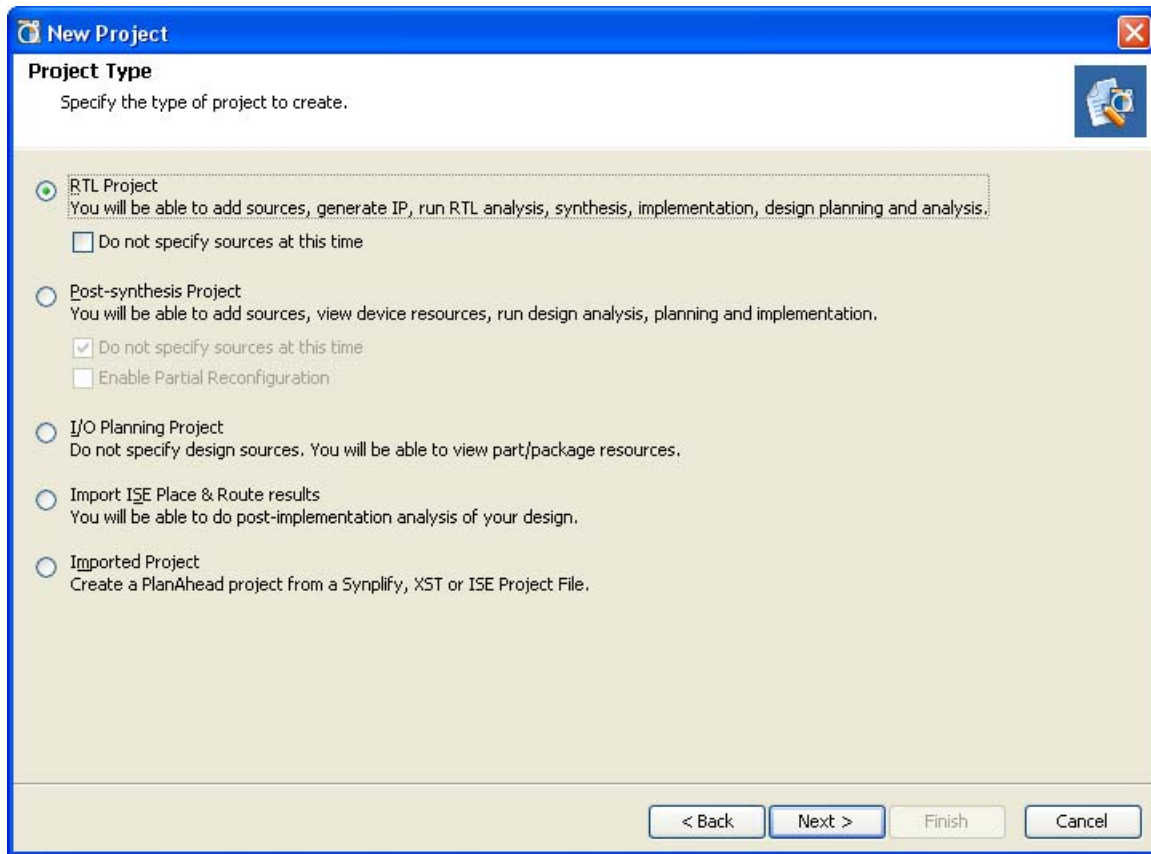

Figure 3-2: New Project Wizard: Project Type
Designate the Project Type by selecting one of the options shown in Figure 3-2, page 40. This selection determines the type of source files that can be associated with the project.
2. In the Project Type page shown in Figure 3-2, select the **RTL Project** option.